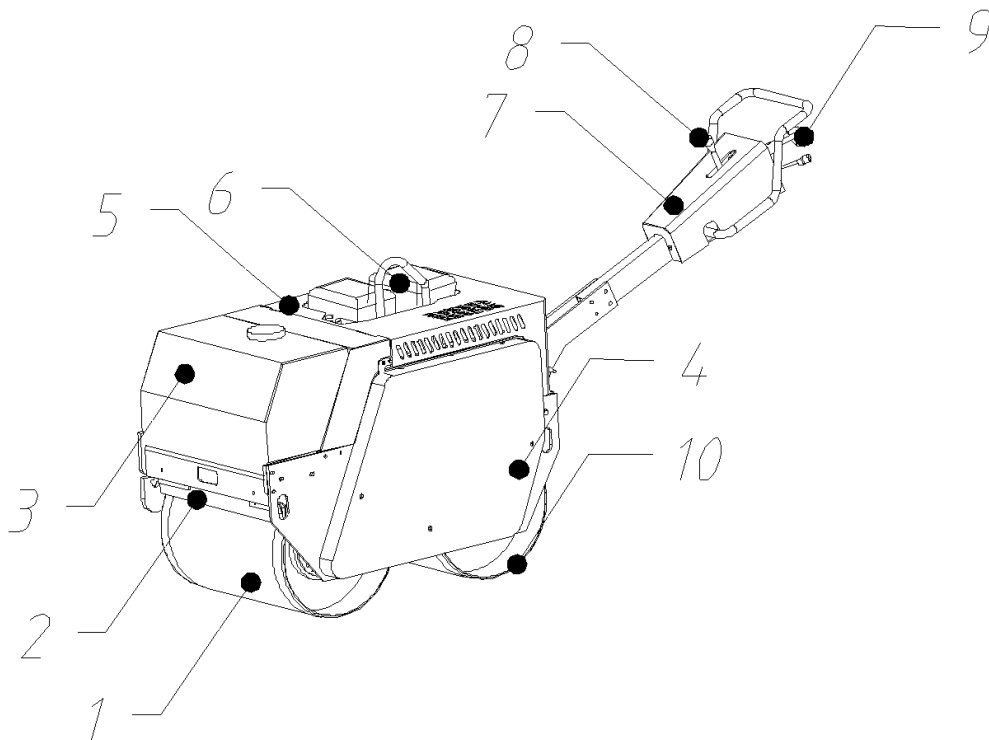

figure1
2.1. Structural characteristics (specific structure shown in Figure 1)